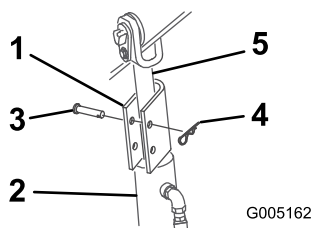

Figure 20
4. Position a cylinder lock over each lift-cylinder rod (Figure 20).
5. Secure each cylinder lock with a clevis pin and cotter pin (Figure 20).